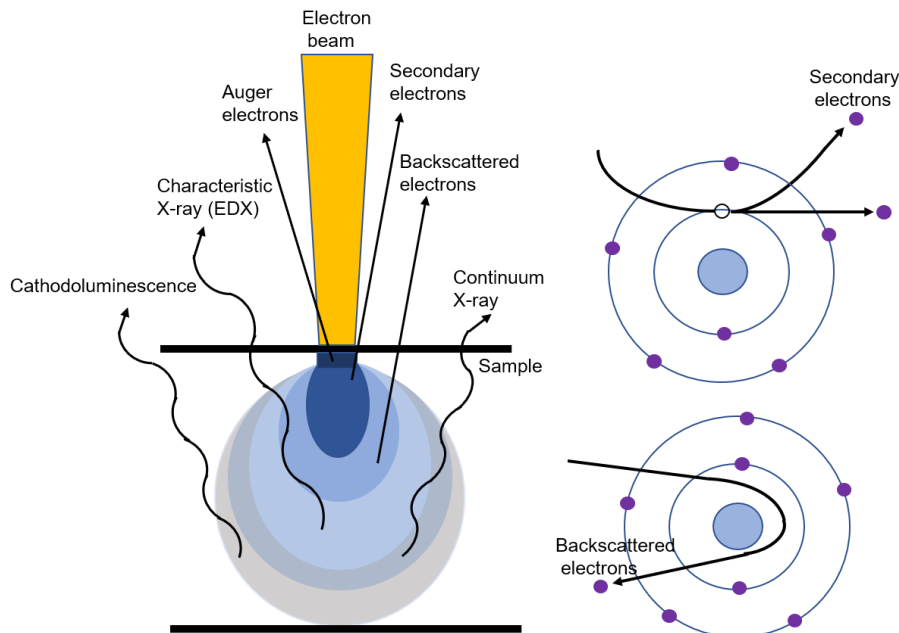

Figure 1. The interaction of electrons from the beam with the sample.
SEM is one of the most versatile methods available to analyze the microstructure and fracture surface of a material. Figure 1 shows the interaction of electrons from an SEM electron beam with a sample. The electrons from the beam collide with the sample and produce many different particles as a result. Secondary electrons (SE) and backscattered electrons (BE) are two of the main electron emissions used in SEM imaging. SE originate from within a few nanometers of the sample's surface and are highly sensitive to surface features such as hills, valleys, edges, etc; which make SE useful for mapping surface topography. BE are strongly dependent upon the atomic number of the elements present within the sample and are often used to image composition contrast. Generally, elements with higher atomic numbers are brighter in BE images than elements with lower atomic numbers.